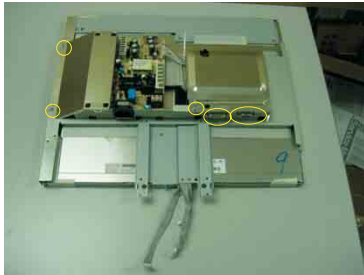

Fig.14
- Remove the screws and then remove the metal frame as shown in Fig.15 Fig.14